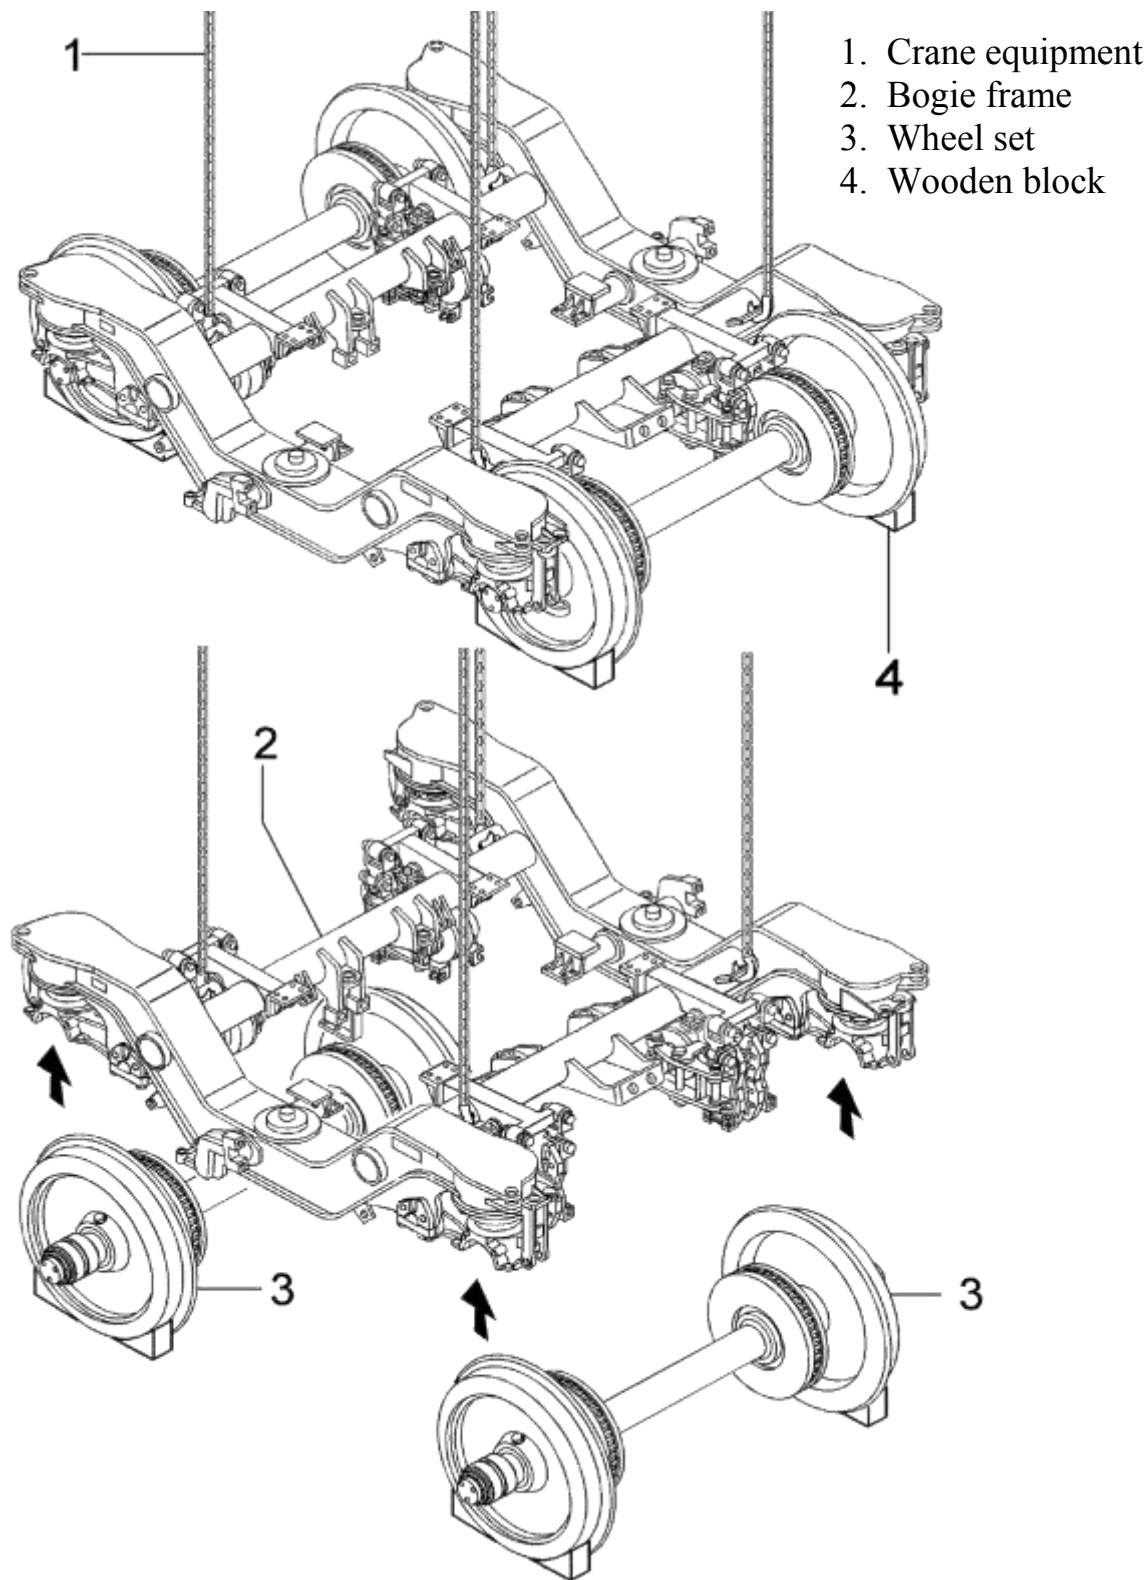

FIG. 4.41 Lifting the Bogie Frame
It is then possible to proceed with lifting the bogie frame (see FIG. 4-41). Before doing so, however, make sure that both wheel sets are secured with wooden blocks (4) from both sides. Be sure that the brake levers are in OPEN position: if not, turn the nut on the brake cylinder using a wrench. Then hook the crane equipment (1) to the frame (2) and then lift it with care. The two wheel sets (3) remain on the floor and can be rolled away.